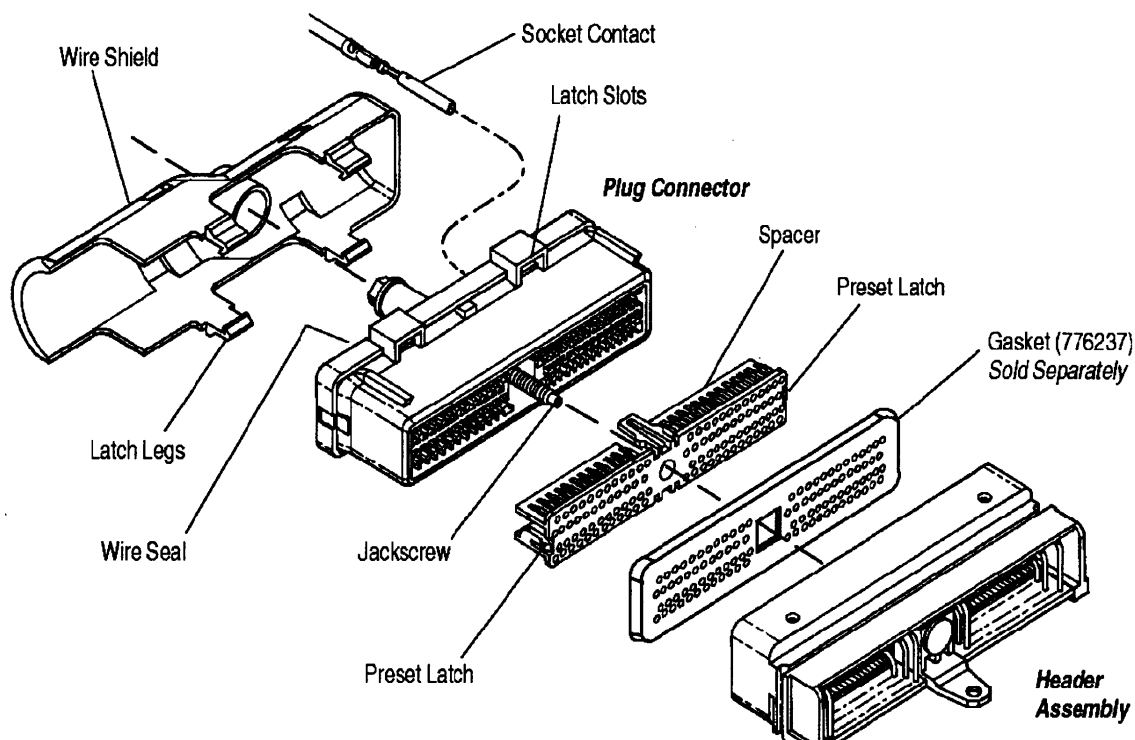

Figure 1
When corresponding with Tyco personnel, use the terminology provided in this specification to facilitate your inquiry for information. Basic terms and features of components are provided in Figure 1.
- Changed gasket part number in Figure 1